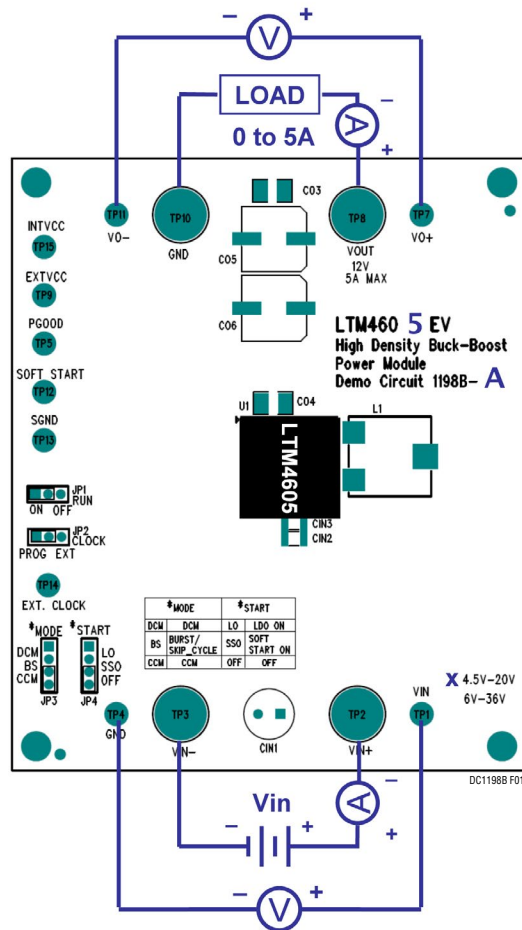

Figure 1. Test Setup of DC1198B-A
Demonstration circuit DC1198B-A is an easy way to evaluate the performance of the LTM4605EV. Please refer to Figure 1 for proper measurement equipment set-up and follow the procedure below:
2. With power off, connect the input power supply, load and meters as shown in Figure 1. Preset the load to 0A and V_{IN} supply to be less than 20V.